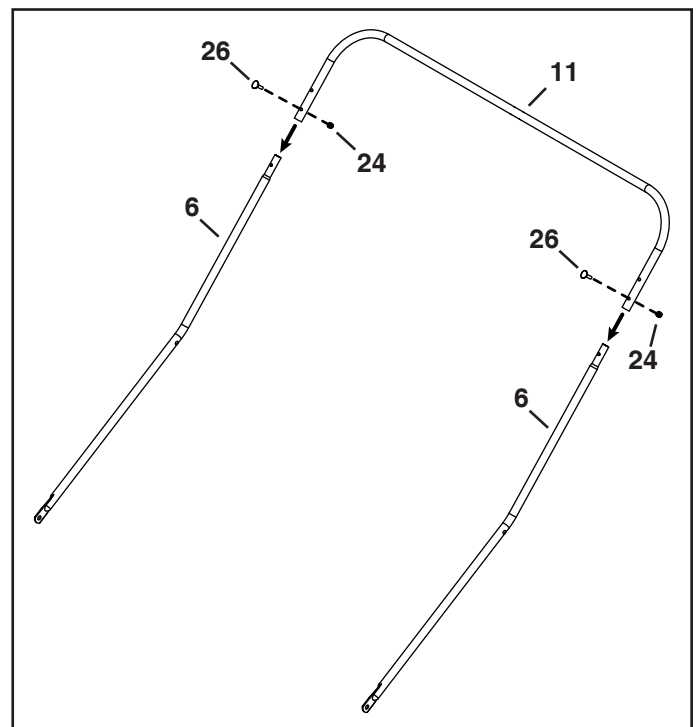

FIGURE 10
16. Install a rear hopper tube (11) onto the two upper hopper tubes (6). See figure 10.
17. Secure the upper hopper tubes (6) to the rear hopper tube (11) using two 1/4" x 1" curved head bolts (26) and 1/4" nylock nuts (24). Bolt heads should face up as shown in figure 10.